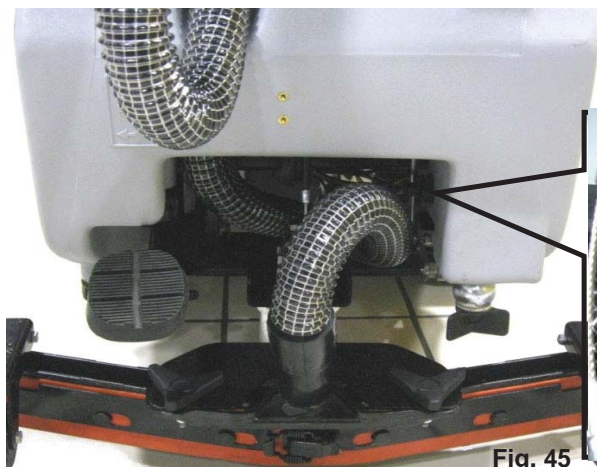

Fig. 45
- 2 Pay special attention to the position of the float in the tank, see Figure 45.